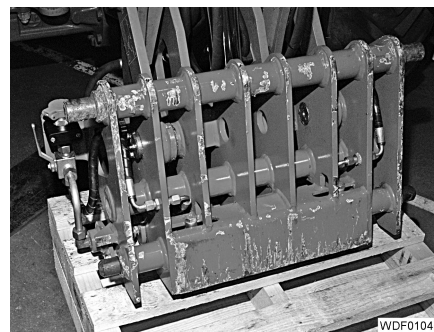

Fig. 379 Resting the tool attachment
- Set down the tool attachment in a slightly raised position onto a suitable surface (e.g. pallets) (Fig. 379).